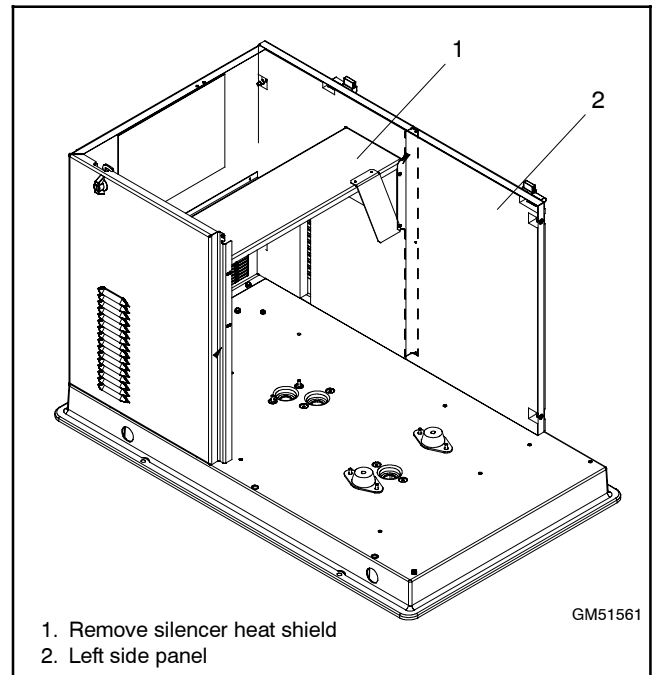

Figure 6-5 Left Side Panel (bulkhead and generator set not shown)
12. Remove the heat shield over the silencer by removing four screws. See Figure 6-5.
13. From the inside of the enclosure, remove the remaining screws to remove the non-service side housing panel. See Figure 6-5.